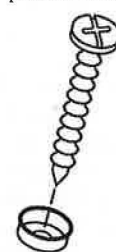

Fig. 3
- 5) NOTE: For ease of installation, an additional person is recommended. Insert cabinet into wall opening. (Figure 3). Ensure the cabinet is plumb and level. If necessary use a carpenter's level and shim corners of cabinet. Secure to wall studs through the four (4) mounting holes inside cabinet, using the screws that have been placed into the plastic bases. (Figure 4) Do not over tighten the mounting screws as body side wall may bend and prevent shelf installation. Only tighten screws until they are flush with the body.